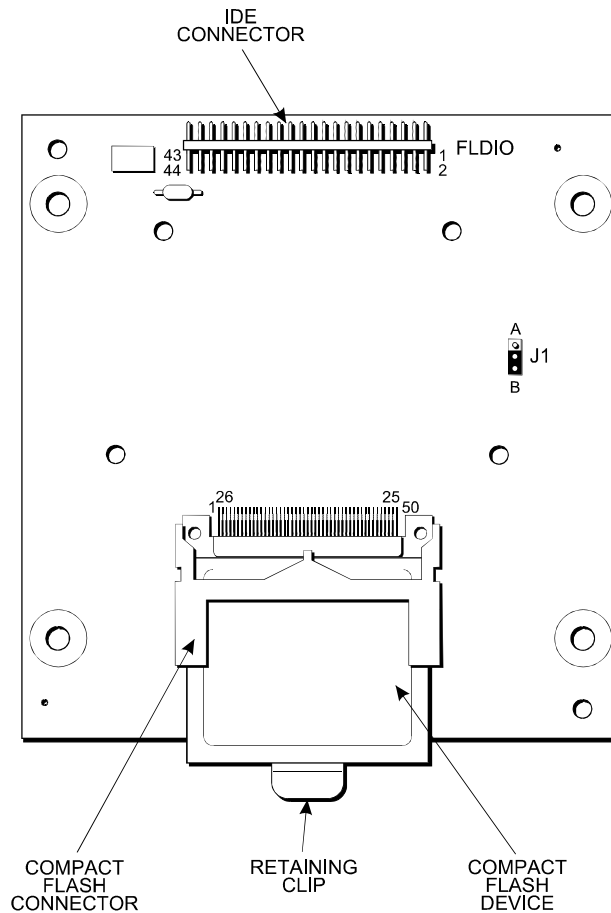

Figure D-1. IDE Flash Drive
12. Remove the Flash drive card by pushing down on the piece of metal and pulling out the card. Replace with the new Flash drive card, as shown in Figure D-1.